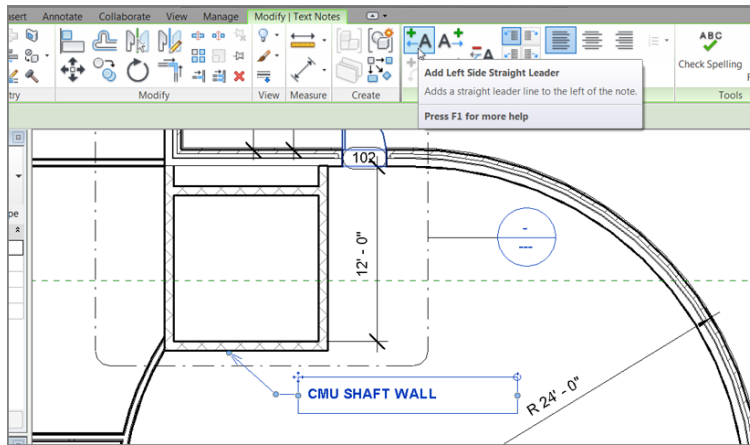

FIGURE 5.49: Adding and stretching a leader
13. Click the Add Left Side Straight Leader button, as shown in Figure 5.49. This option adds a leader to the left end of the text.
14. By clicking the grips and moving the text around, configure the text and the leader to resemble Figure 5.49.